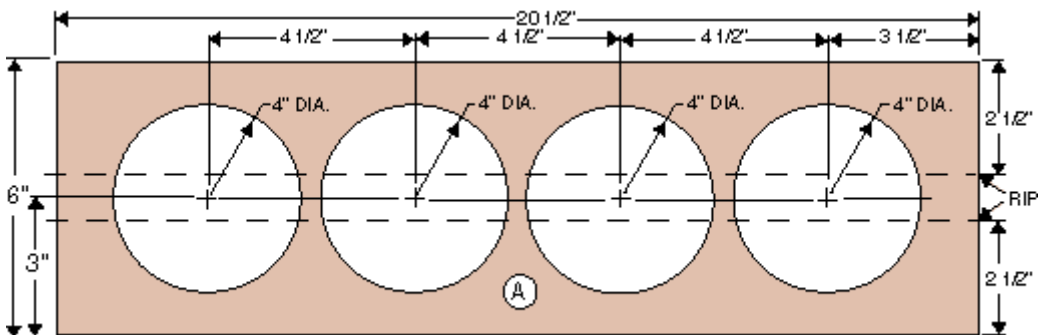

FIGURE 1
Start by laying out the four rails on two pieces of stock (A) as shown in Fig 1. By following the procedure outlined here, you'll be able to get two rails from each piece of stock and save time in the process. Center four 4" diameter circles on the rail stock, leaving a 1/2" space between the circles. Use a hole saw, scroll saw or saber saw to cut out the circles.